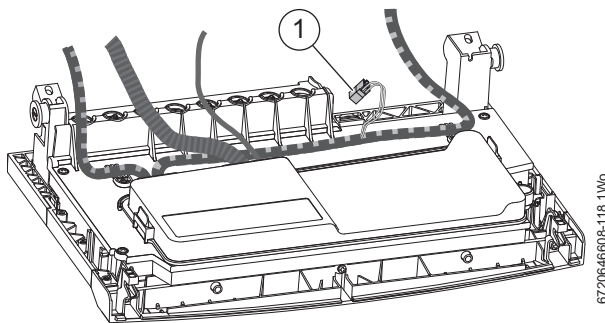

Fig. 27 Unused connector
Refer to Figure 27. The connector (1) in the wiring harness is provided for the installation of the Domestic Hot Water Pre-Heat accessory - 7 716 192 735